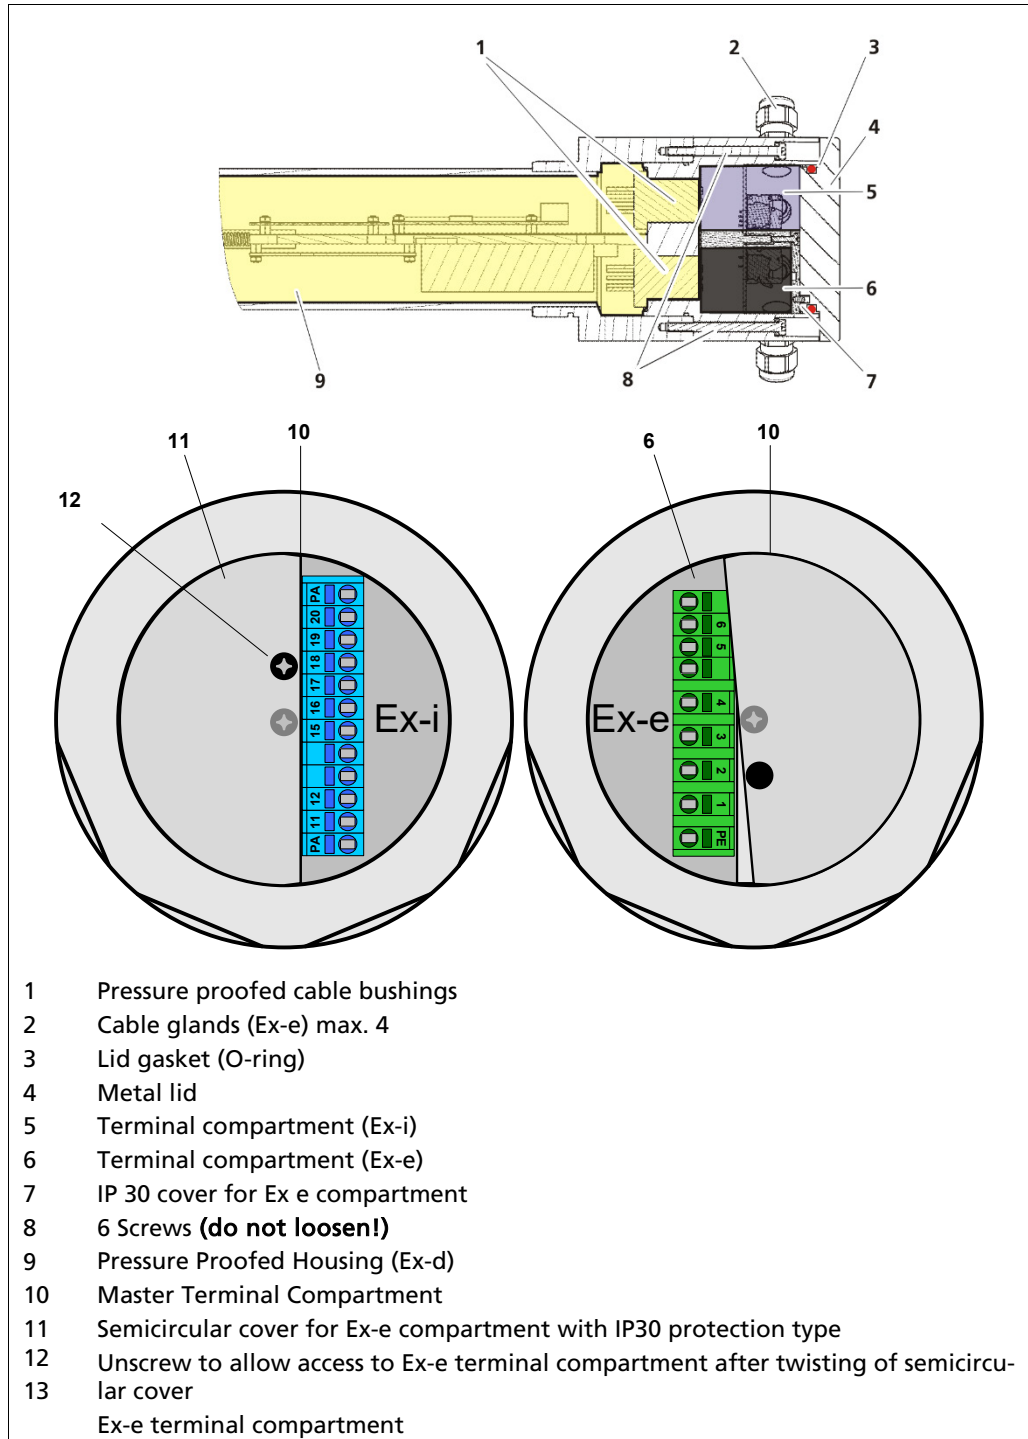

Fig. 3 Ex-i - Concept LB 480-xx-3C, LB 480-xx-4C
- The housing cover (metal lid) covers the entire terminal compartment (see Fig. 3).
- The semicircular plastic cover (Ex-e cover) covers the non-intrinsically safe terminals (see Fig. 3).